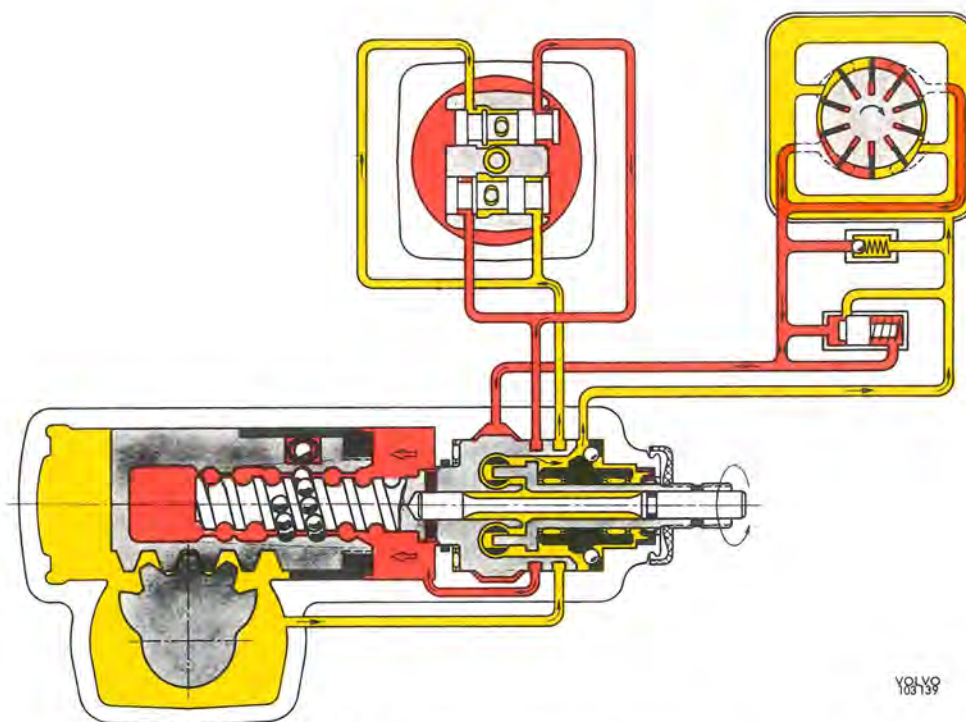

Fig. 6-40. Principle of function, left-hand turn
When the steering wheel is turned to the left (see Fig. 6-40) movement is transmitted via the steering spindle (16) and the torsion bar (17) to the worm (5), so that the piston (2) is screwed to the left in the figure (downwards in the vehicle). Since the torsion rod is resilient, the steering spindle will be turned in relation to the worm and thus influence the valves placed in the worm. The greater the turning movement, the greater will be the valve displacement. One of the valve pistons (9) is then displaced to the right and opens the